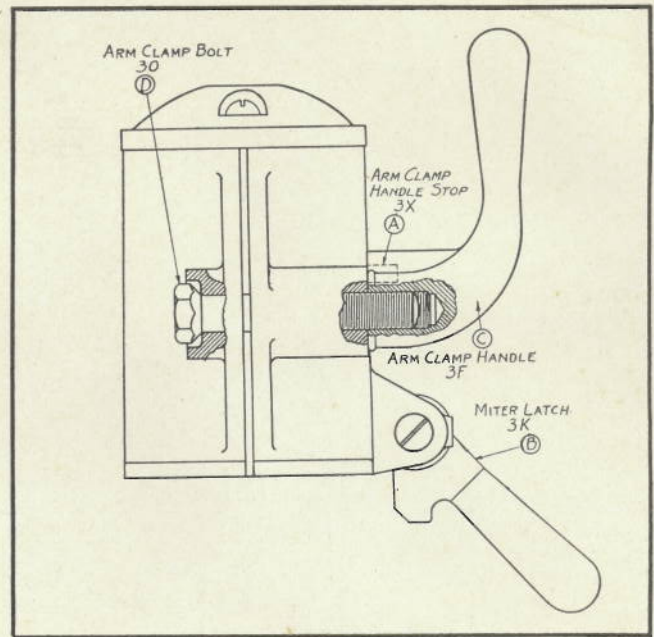

FIGURE 9
The arm clamp handle rigidly holds arm in position for straight or miter cuts. When tightened in position the arm clamp handle should be upright as shown in Figure 9 (C). If arm clamp handle becomes worn so that it goes beyond the vertical position . . . you relocate it. See Figure 9.
1. Remove arm clamp handle stop (A) and lift miter latch (B) upward against side of arm.
2. Unwind arm clamp handle (C) by turning it clockwise (to the right). Make about three or four complete turns of this handle.
3. Push back arm clamp bolt (D) from its hex socket so that the hex head can be turned.
4. Turn the hex clamp screw (D) about one-sixth turn counterclockwise to tighten arm clamp handle.
5. Put hex screw head (D) back in hex socket . . . retighten arm clamp handle (C) in upright position . . . and insert arm clamp handle stop (A).